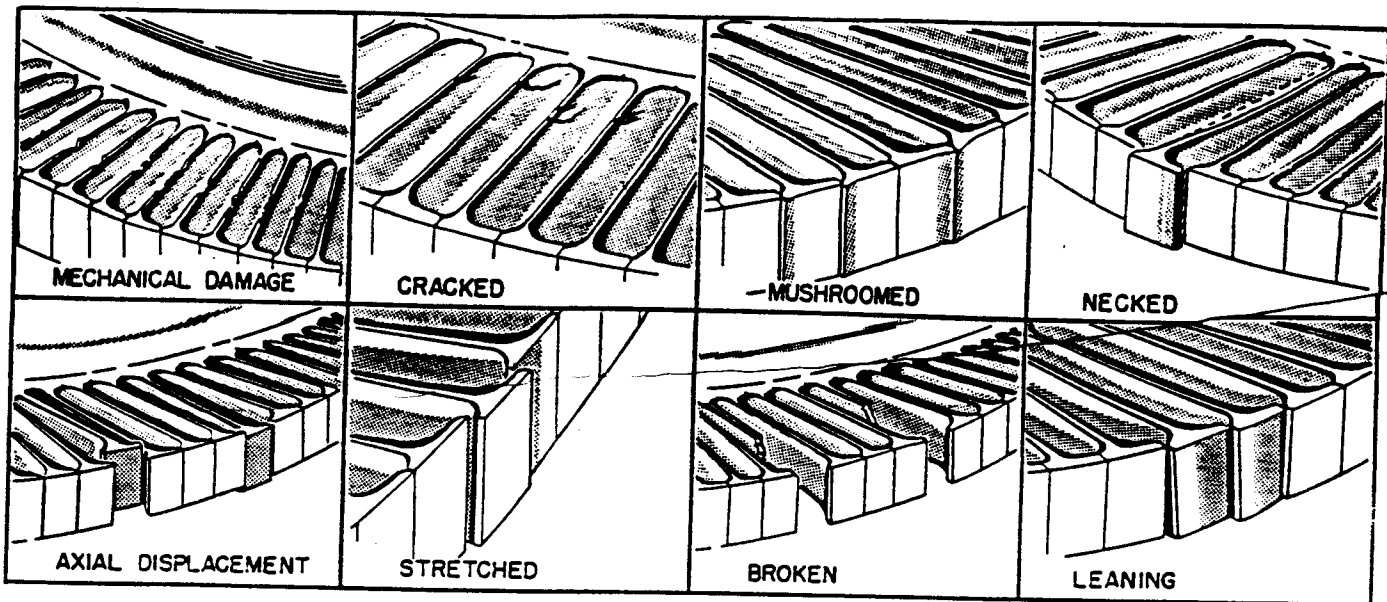

Figure 12. Bucket Wheel Defects
20. **BUCKET WHEEL DEFECTS.** (See figure 12.)